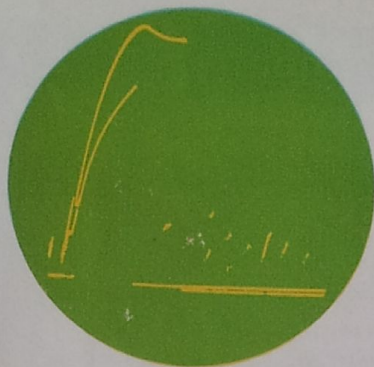

Fig. 33.
- bad contact images.** Images similar to those given in fig. 33, 34, 35, 36 and 37 are due to defects that must be corrected according to the captions accompanying the figures.